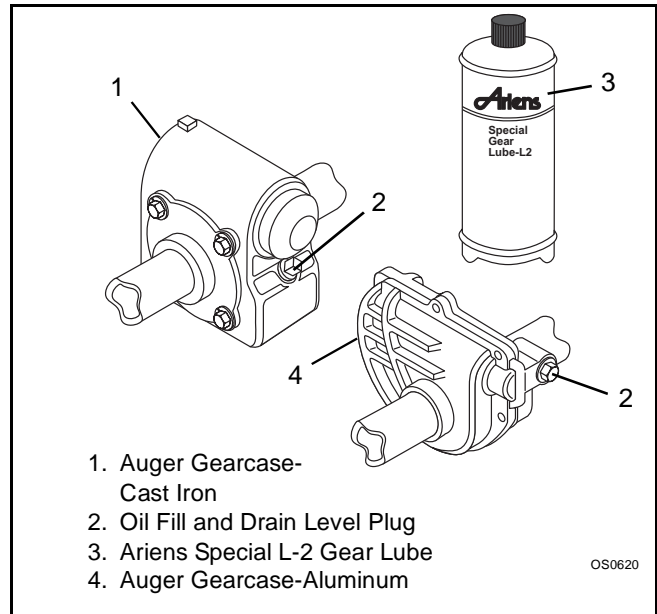

Figure 6
2. Add lubricant, if required, allow oil to drain to level of plug and replace plug (Figure 6).